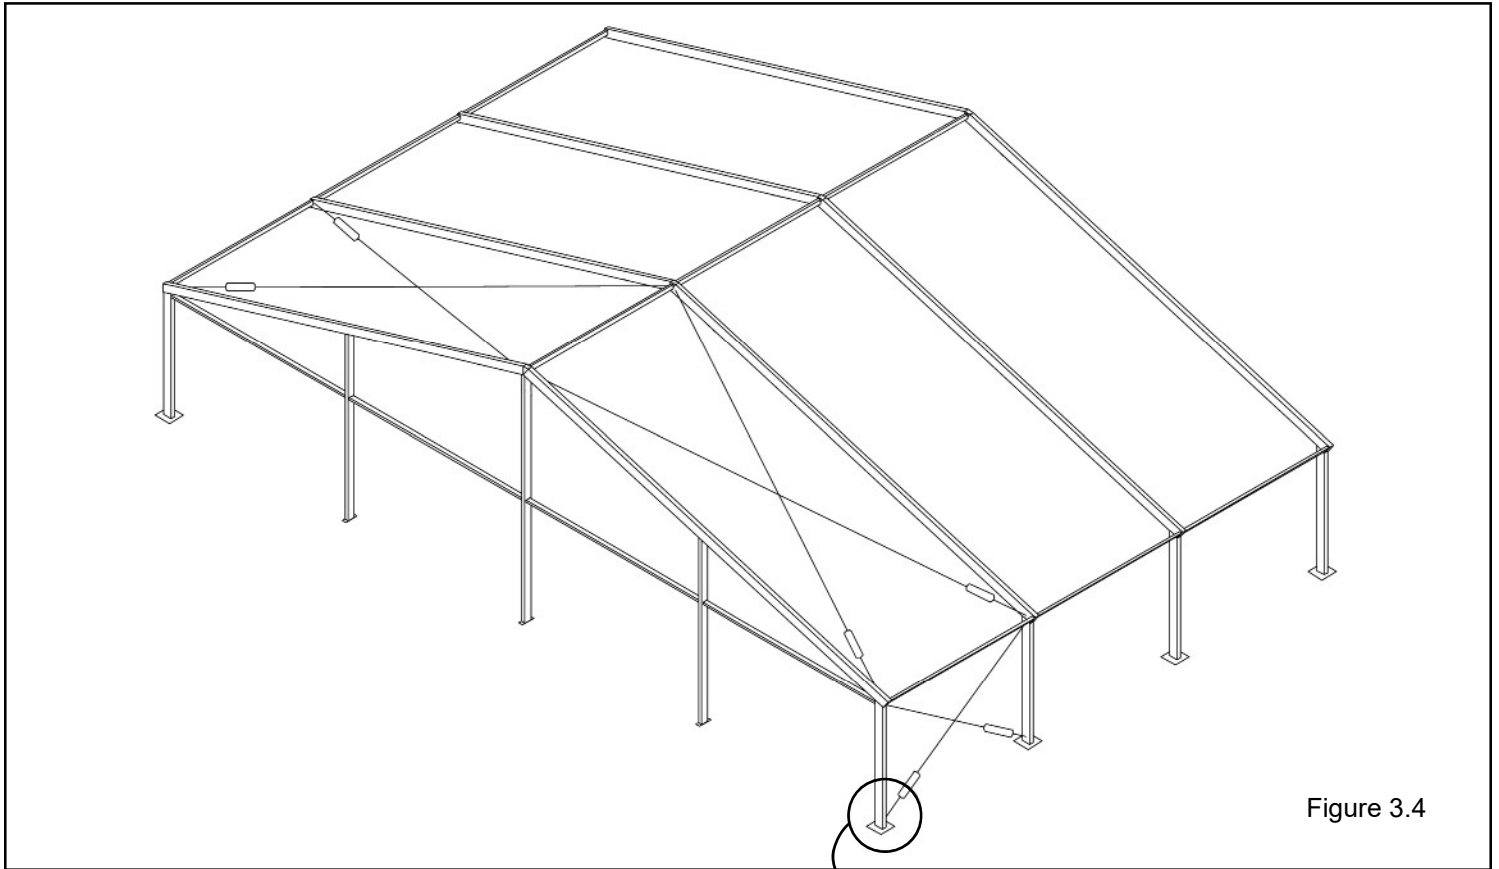

Figure 3.4
3.4 Completing Installation of Upright and Roof Cable Bracing: Turnbuckles may need to be fully extended to attach cables. Refer to **Figure 3.4** for cable configurations required for the Upright and Roof Cable Bracing.